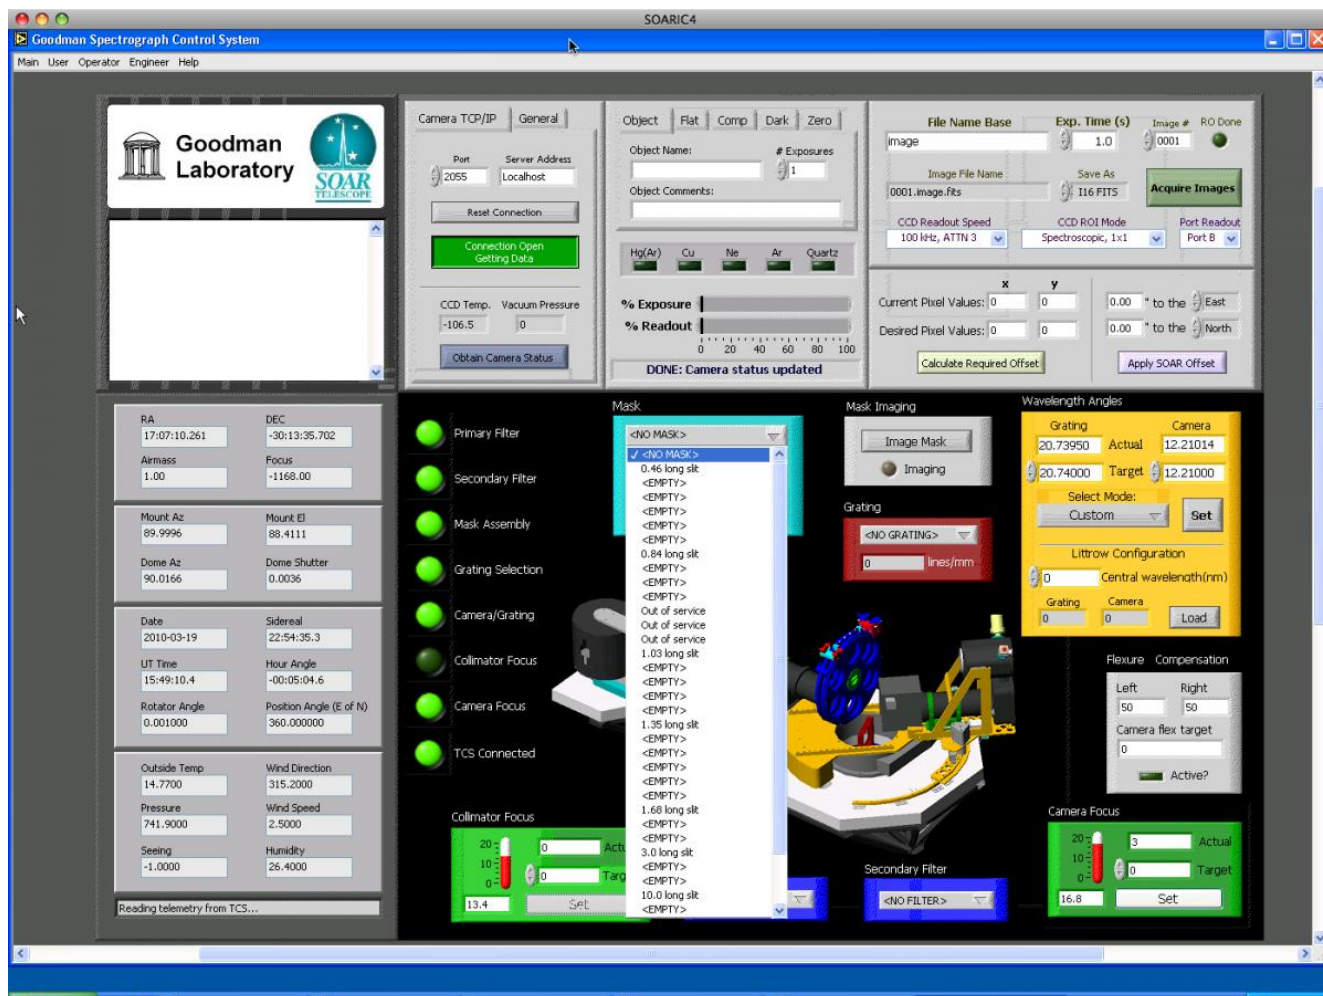

Figure 13: Selecting the slit mask assembly.
- Change the "Slit Mask". An observer can change the Slit Mask from that which is currently in place by clicking on the upper-most button under the "Mask" section of the GUI and select a different slit mask (see Figure 13). After a successful startup of the GUI no slit mask will be in place. The observer should then choose from among our current long-slit masks as given in the Goodman Overview [2].